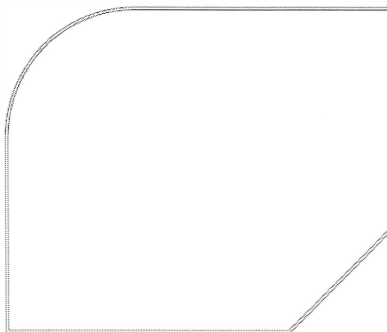

Figure 12-14
4. Chamfer the lower right corner with *distances* of **12000**, as shown in Figure 12-14.
5. Use **Offset** to create the walls. The exterior walls are **300** thick, as shown in Figure 12-14.